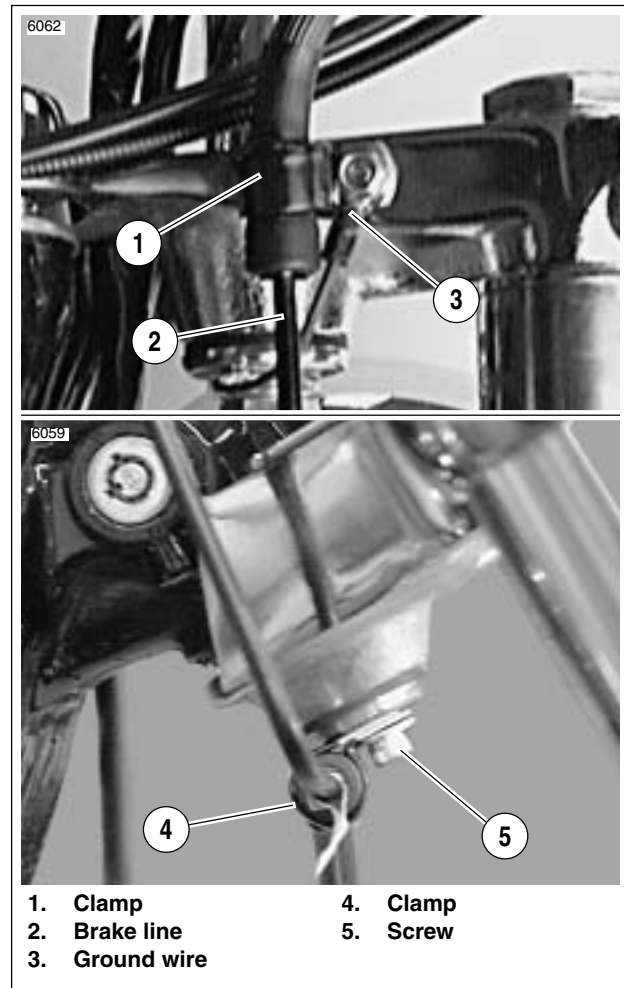

Figure 1-9. FXDWG Brake Line and Ground Wire
7. See Figure 1-9. Attach brake line (2) and ground wire (3) on upper triple clamp with clamp (1). Position brake line inboard from fastener. Tighten fastener to 30-60 in-lbs (3.4-6.8 Nm).
See Figure 1-9. Attach brake line as shown before removing motorcycle from pallet. If brake line is not secured, it could be pinched and damaged in front fork stop.